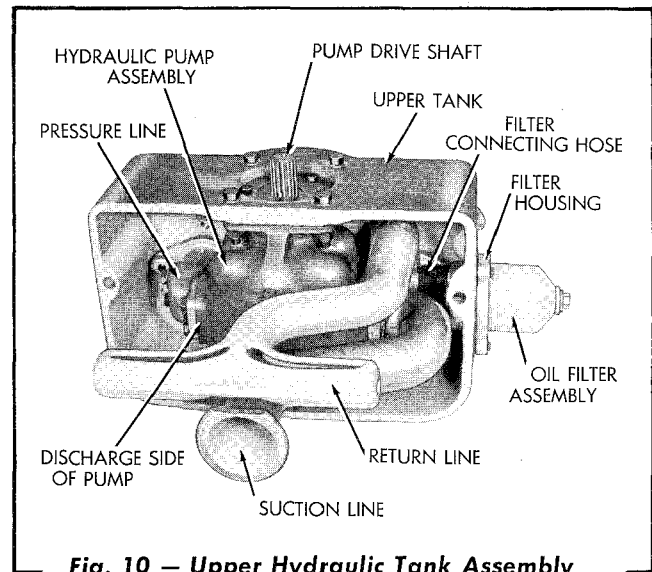

Fig. 10 — Upper Hydraulic Tank Assembly Bottom View
6. Remove the three capscrews securing the oil filter housing (Fig. 10) to the upper tank and remove the filter assembly. Remove the filter connecting hose.
7. Remove the two capscrews attaching the oil return line (Fig. 10) to the upper tank and remove the return line. Remove the two capscrews securing the oil pressure line (Fig. 10) to the upper tank.
8. Align the punch marks and install the pump housing in position on the pump adapter; tap the housing down evenly with a soft hammer. If a new pump housing is used, make certain that the pump housing is installed in the pump adapter with the discharge side of the pump housing positioned as shown in Fig. 10. Install the two $\frac{3}{8}$ " NF x $1\frac{3}{4}$ " hex-socket-head capscrews to secure the housing to the adapter and tighten the capscrews to a torque of 50 lbs. ft.